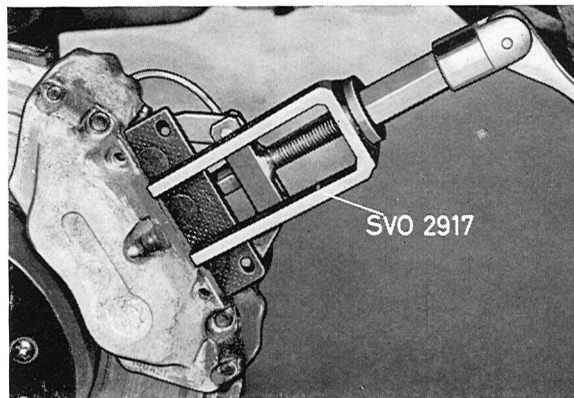

Fig. 5-15. Removing brake pads
4. Pull out the pads with tool 2917, see Fig. 5-15. If the used pads are to be re-installed, mark them to ensure they are restored to their original position.